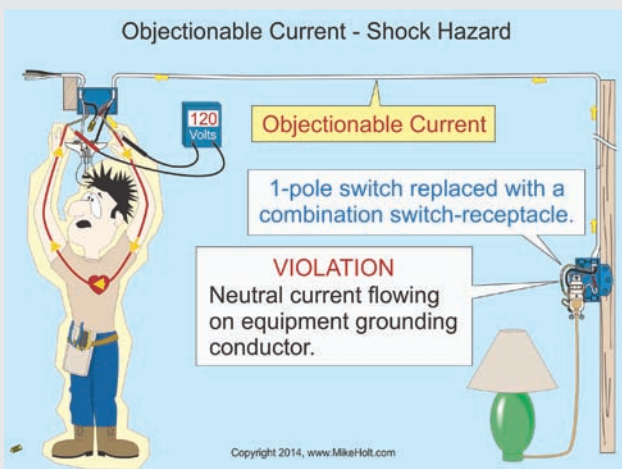

Figure 250-31
**Shock Hazard.** When objectionable neutral current flows on metal parts or the equipment grounding conductor, electric shock and even death can occur from the elevated voltage on those metal parts. Figures 250-31 and 250-32